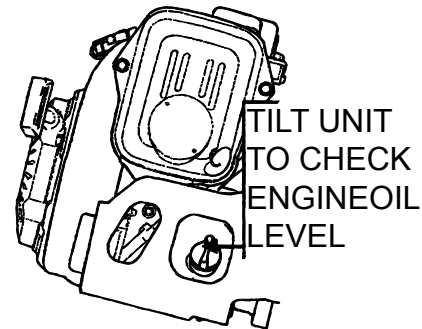

Figure 5. Tilting Machine
2. Place the machine on a level surface and then tilt it forward (Figure 5).